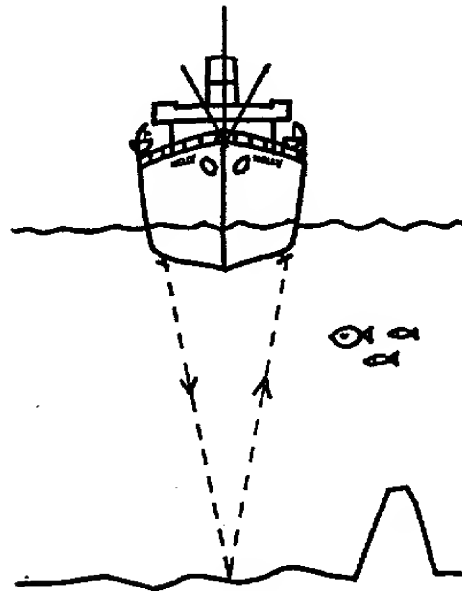

Fig. 196
Ships use a similar device to find the depth of the sea below them or to detect submarines or shoals of fish (Fig. 196). This echo sounding system, called *sonar*, produces ultrasonic waves electrically, using a vibrating crystal. *If the wavelength of such waves was 0.1 foot what would be their approximate frequency?* (23)